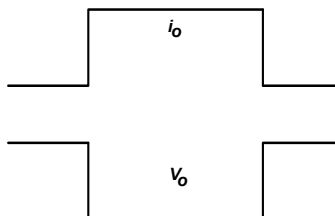
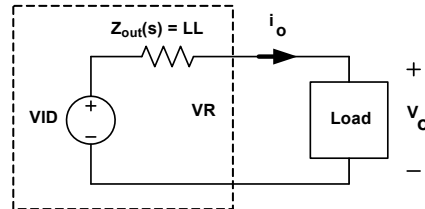

Figure 21. Desired Load Transient Response Waveforms
Figure 27. Voltage Regulator Equivalent Circuit
Assuming the compensator design is correct, Figure 21 shows the expected load transient response waveforms if C_n is correctly selected. When the load current I_{core} has a square change, the output voltage V_{core} also has a square response.
Figure 21 shows the desired load transient response waveforms. Figure 27 shows the equivalent circuit of a voltage regulator (VR) with the droop function. A VR is equivalent to a voltage source ($= V_{ID}$) and output impedance $Z_{out}(s)$. If $Z_{out}(s)$ is equal to the load-line slope LL (that is, a constant output impedance), V_o has a square response when i_o has a square change in the entire frequency range.